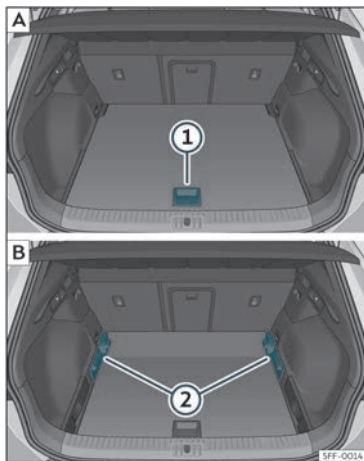

Fig. 113 Variable luggage compartment floor: **A** raised position; **B** lowered position.
- To move from the low position to the high position, lift the floor using the handle >>> **Fig. 113 ①**, and pull it back until the front of the floor has fully passed the supports >>> **Fig. 113 ②**.
- Move the floor forward over the supports as far as the rear seat backrest and then lower the floor with the handle **①**.
- To move from the high position to the low position, lift the floor using the handle >>> **Fig. 113 ①**, and pull it back until the front of the floor has fully passed the supports >>> **Fig. 113 ②**.
- Now let the front part fall to the floor and slide the floor forwards as far as the rear seat backrest; lower the floor at the same time with the handle **①**.
- Lift the variable floor in the high position using handle >>> **Fig. 113 ①**, pull it up and push it towards the backrest of the rear seats until it folds along the hinge line and the movable part of the floor is resting on itself.